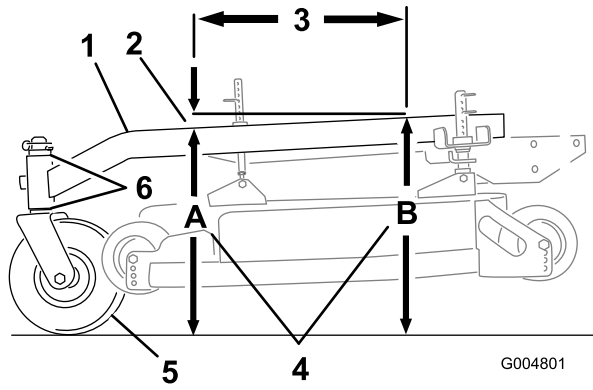

Figure 54
The carrier frame must have a pitch between 1/8 inch (3 mm) to 3/8 inch (9 mm) over the length of 24 inches (61 cm) on the carrier frame (Figure 54).
1. Measure out 24 inches (61 cm) on the carrier frame (Figure 54).
2. Measure carrier frame height at location **A** (Figure 54).
3. Measure carrier frame height at location **B** (Figure 54).
4. The height at location **A** must be a 1/4-3/8 inch (6 mm -10 mm) lower than location **B** (Figure 54).
5. If the carrier frame is not correct, move caster spacers to make it a 1/4-3/8 inch (6 -10 mm) pitch (Figure 54). Move spacers from top or bottom to make the correct pitch.